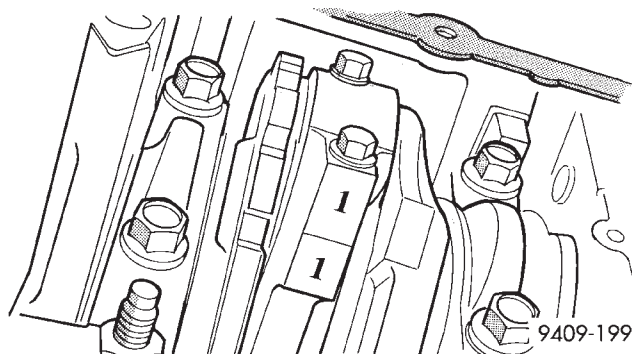

Fig. 92 Identify Connecting Rod to Cylinder
(2) Remove oil pan. Scribe the cylinder number on the side of the rod and cap (Fig. 92) for identification.